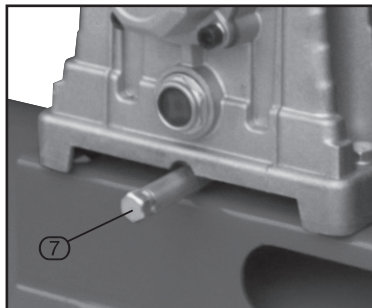

FIG.10
11.4 OPERATIONS TO BE CARRIED OUT EVERY 6 MONTHS - FIGS 10 - 12